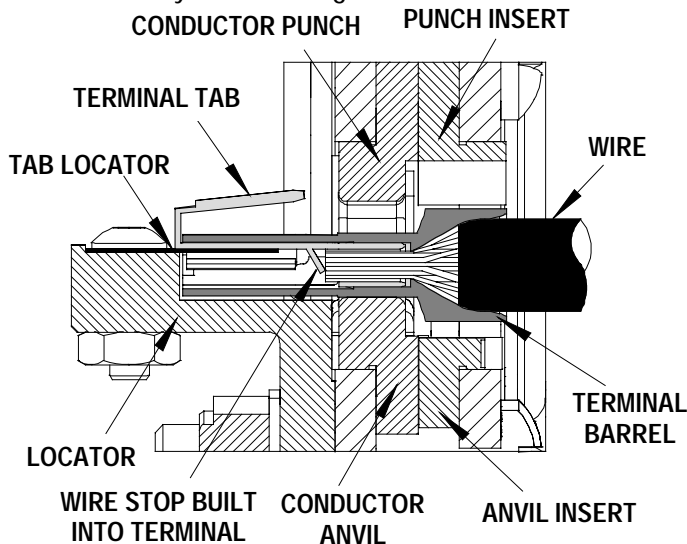

Figure 3
2. The height of the locator may need to be adjusted when changing from one terminal size to another. To do this, loosen the locator lock nut, (See Figure 3), and adjust height so the tab aligns with the female locator tab. Tighten the lock nut.